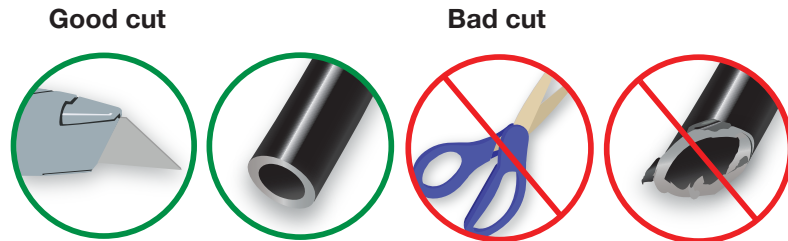

fig. F.2
1. Cut the air line in half. Make clean, square cuts with a razor blade or hose cutter (Fig. F.2). Do not use scissors or wire cutters.